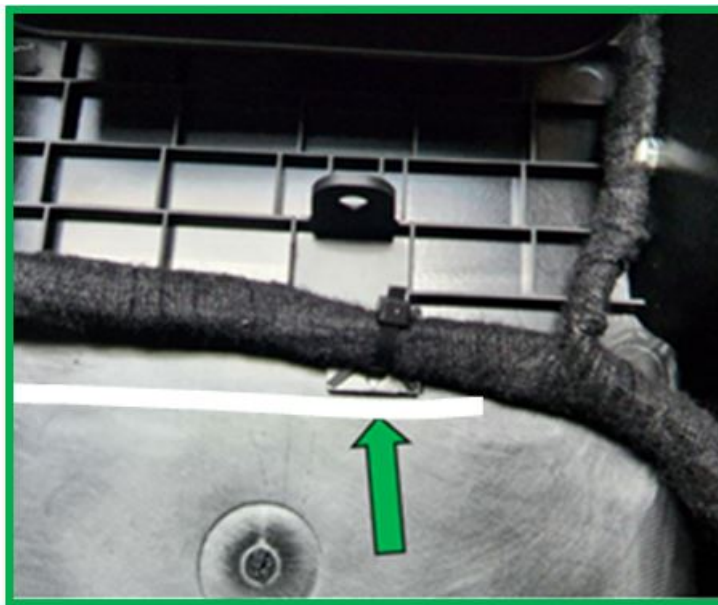

Fig. 5
3. If retainer clip is not attached, peel off paper from adhesive and stick retainer clip to the underside of the console (Fig. 5) .